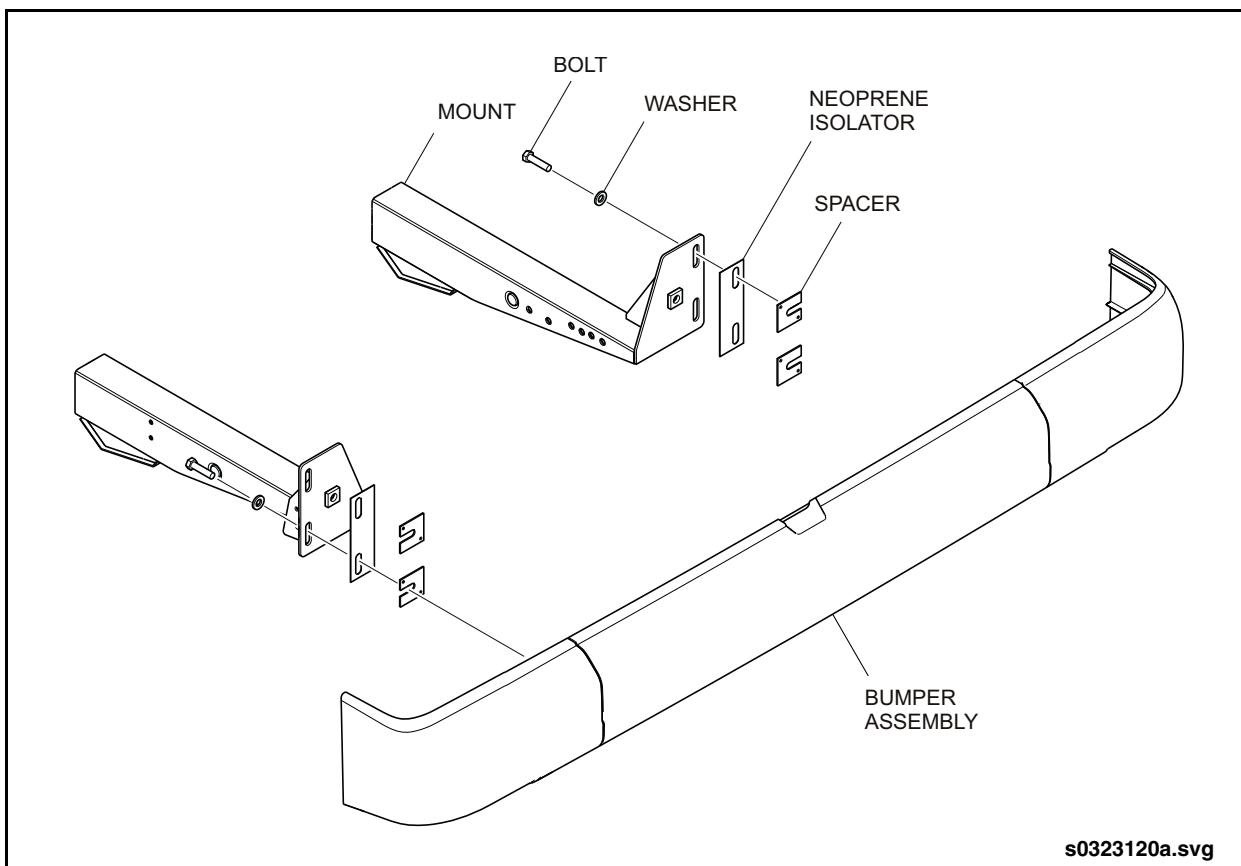

Fig. 13-12: Rear Bumper Installation
3. Remove the bolts, washers and spacers that attach the bumper to the vehicle structure. Note the number of spacers that are used at each location. See "Fig. 13-12: Rear Bumper Installation" on page 37.